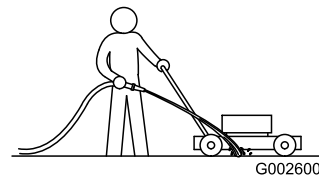

Figure 20
1. With the engine running on a flat paved surface, spray a stream of water in front of the **right** rear wheel (Figure 20).